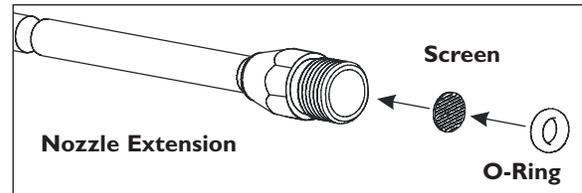

Figure 16 - Check In-Line Filter
Refer to Figure 16 and service the in-line filter if it becomes clogged, as follows:
- c. Remove the in-line filter from the other end of the nozzle extension (see Figure 16, earlier).
- b. Remove the in-line filter from the other end of the nozzle extension (see Figure 16, earlier).